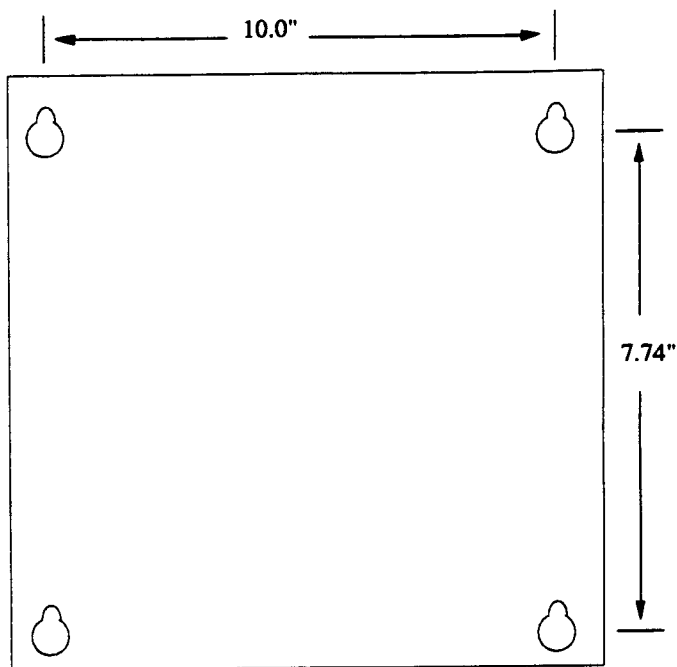

Figure 4 - Miniterm Cabinet Mounting Hole Dimensions
2. Mark the four mounting holes against the mounting surface using the Miniterm cabinet as a template or using the measurements provided in Figure 4.